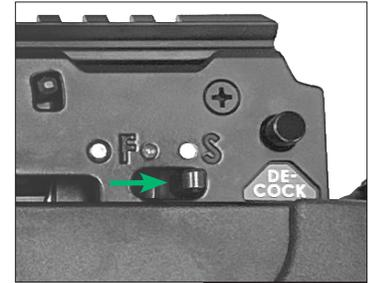

FIGURE 17
To manually engage the safety, slide the safety switch (Part 3) backwards until you hear and feel the safety switch click into place. Confirm that the safety switch has moved from under the (F)IRE position and the red dot to under the (S)AFE position and the white dot, as illustrated in Figure 17.
⚠ WARNING: NEVER PLACE ANY PART OF YOUR BODY (INCLUDING HANDS OR FINGERS) INTO THE TRAVEL PATH OF THE BOWSTRING OR CABLES. PLACING ANY BODY PART INTO THE PATH OF THE CROSSBOW COULD RESULT IN LACERATIONS OR CRUSH INJURY, INCLUDING POTENTIAL AMPUTATION. ALWAYS KEEP YOUR FRONT HAND ON THE FOREGRIP OF THE STOCK BELOW THE TRAVEL PATH OF THE STRING AND CABLES AT ALL TIMES (SEE FIGURE 17). FAILURE TO FOLLOW THIS WARNING COULD LEAD TO SERIOUS INJURY OR DEATH.